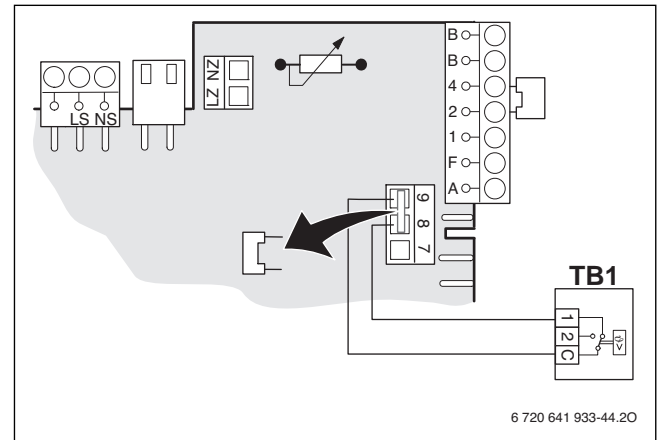

Fig. 47 Electrical wiring TB1
- ▶ Connect the leads labeled SWITCH CONTACT (yellow) to the TB1 temperature guard (→ Fig 47, page 47) on the Heatronic.